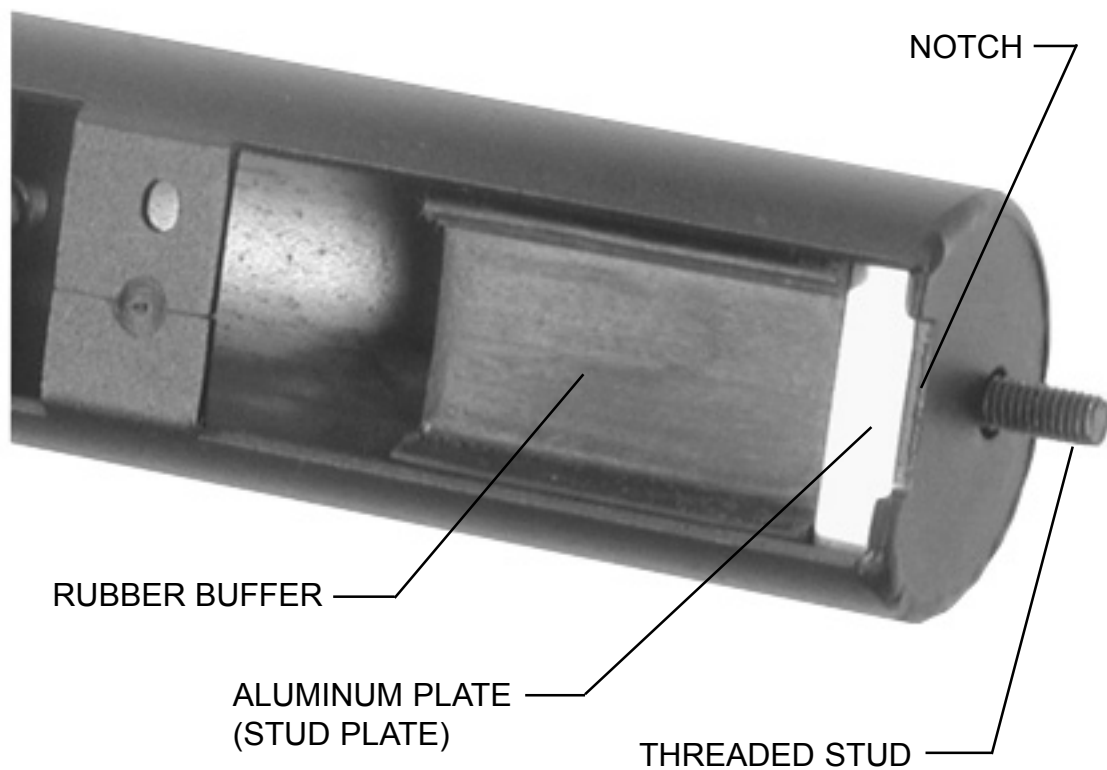
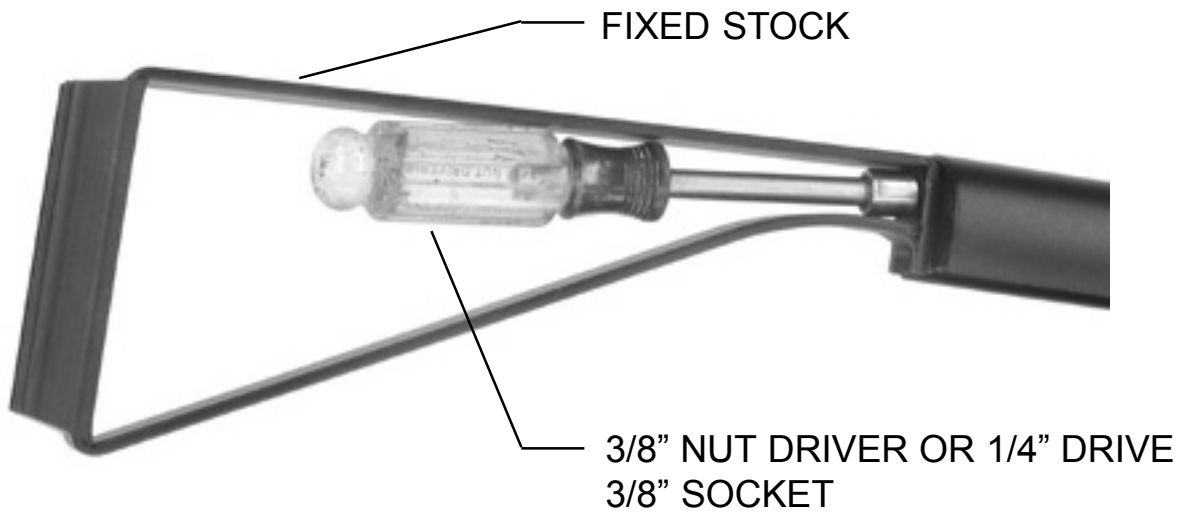

FIG.1
FIG. 5
**III)** Please refer to FIG.1. This shows a threaded stud protruding from the rear of the unit. This stud is affixed to a thick aluminum plate and the plate has the rubber recoil buffer attached to it. The buffer and plate (buffer/stud plate assembly) are free to 'float' in the CCU housing.
The threaded stud is the element which secures each stock style (Fixed, M4, Telestock) to the housing. A 3/8" box end wrench is the tool needed for the M4 - preferably a quality wrench with a thin ring. (A 3/8" - 1/4" drive socket for the Fixed Stock and a 1/2" open end for the Telestock.) Notice the 'notch' in Fig.1. This feature is part of the system which orients two of the stock styles rotationally (Fixed and M4). Now see Fig.2 and note the two projections on the interface mounting surface. These projections engage the 'notch' as shown in Fig.3.
IV) The M4 and Fixed stocks attach in a similar fashion. The M4 has an access opening (Fig.4) and the Fixed Stock is accessible from either side (Fig.5). In both units there is sufficient room to install the retaining nut first by hand and then final tightening with the appropriate wrench. In both cases it is necessary to ensure that the projections (Fig.2) on either stock style properly engage the 'notch' (Fig.1) and that the threaded stud projects fully. The buffer/stud plate assembly needs to be held in place simultaneously with the stock while the retaining nut is started and tightened on the stud. The M4 stock is a little tricky but doable with practice.